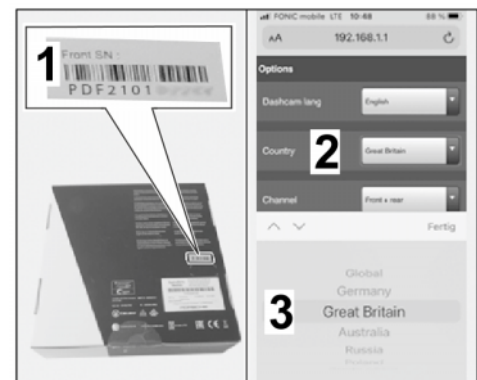

Figure 22
5.3.2 Select the country (⇒ *Figure 22*).